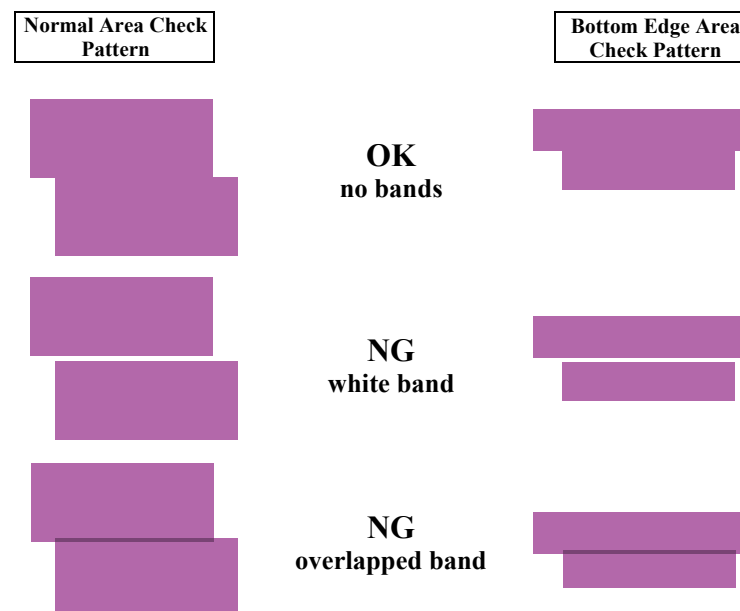

Figure 5-30. PFP Check Pattern Judging Standard
7. Referring to Figure 5-30 check that there is no white or overlapped bands in all the check patterns. If any bands are found, carry out the steps below.